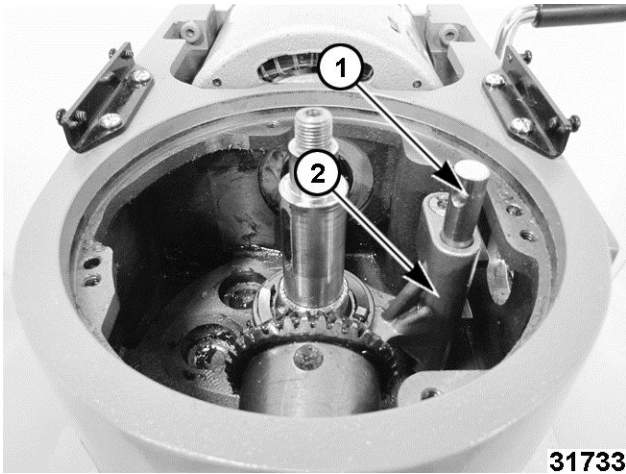

Fig. 30
5. Lower yoke assembly and clutch sleeve (2, Fig. 30) onto planetary shaft.
6. Place shifter rod (1, Fig. 30) into yoke.